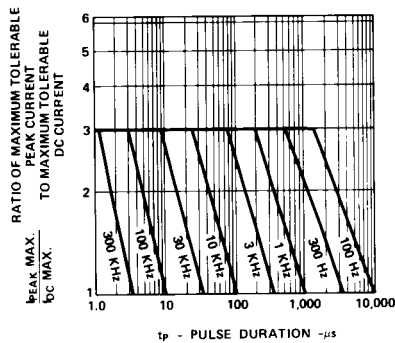

Figure 5. Maximum Tolerable Peak Current vs. Pulse Duration. ( $I_{DC}$  MAX as per MAX Ratings).
1. See Figure 5 (HER/Orange), 10 (Yellow), or 15 (Green/Emerald Green) to establish pulsed operating conditions.